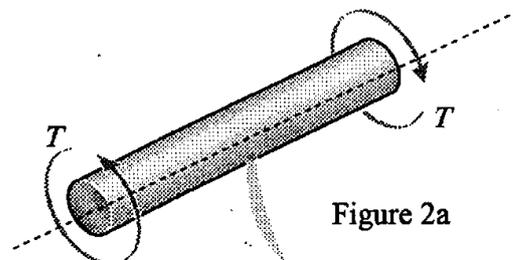

Figure 2a
2. A circular bar with a diameter of 2 cm made of a *brittle material* is subjected to a torque T as shown in figure 2a. The bar eventually breaks due to a torque at $400\text{ N}\cdot\text{cm}$.